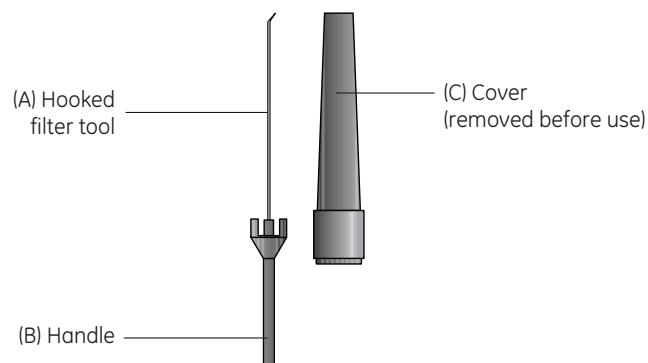

Fig 8. Filter tool.
3. Using a hooked filter tool (Fig 8) to carefully remove the filter from the surface of the medium bed.